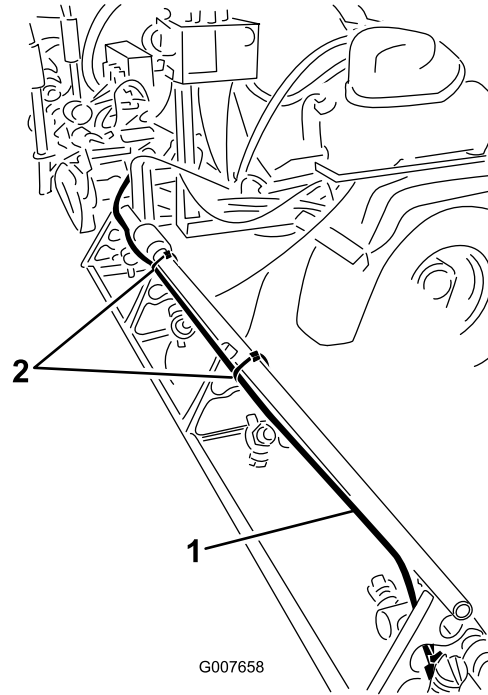

Figure 14
4. Route the tube assembly along the rear side of the upper support pole of the outer boom section as shown in Figure 14.
6. Secure the tube assembly to the outer boom section with cable ties as shown in Figure 14.